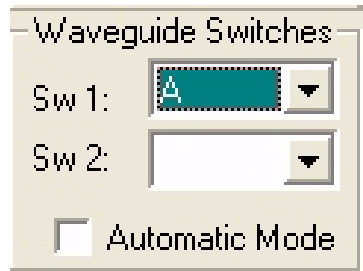

Figure 33, Set Waveguide Switch 1
6. Refer to Figure 33 and Figure 34. Each amplifier can control two waveguide switches. When only one switch is used in a redundant configuration it is always Switch 1. Locate the **Waveguide Switches** area of the Waveguide CFG Box. Click on the down arrow of the switch you wish to control and select the desired switch position.